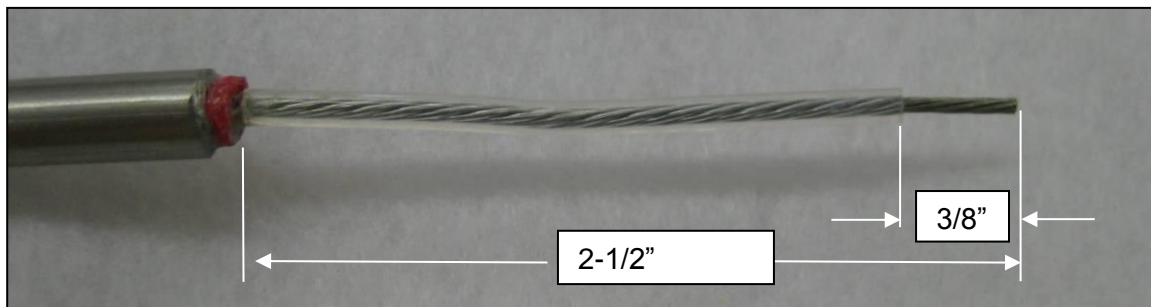

Figure 9. Trimming the cable.
6. Cut off approximately 2-1/2" of the 1/4" tubing and remove the filler. Strip approximately 3/8" of the wire insulation. Twist wires into a straight condition. See Figure 9 for strip dimensions.